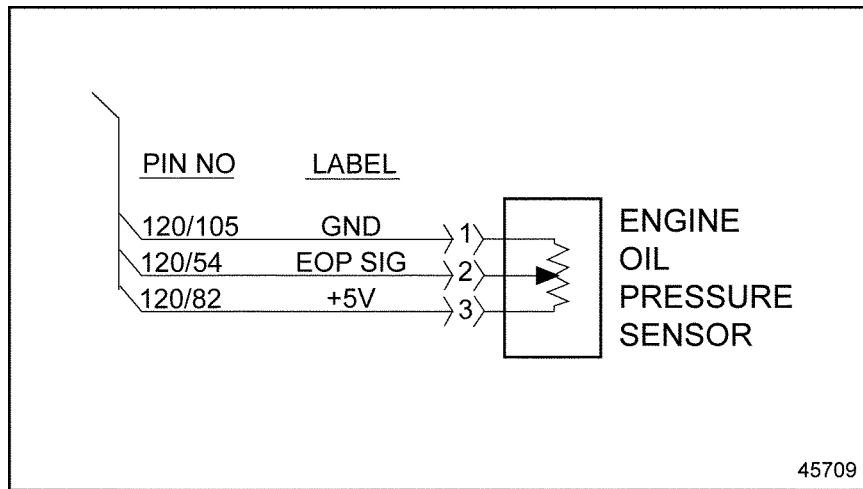

Figure 7-2 Engine Oil Pressure Sensor Wiring
3. Measure the resistance across pins 2 and 3 of the EOP Sensor connector. See Figure 7-2.